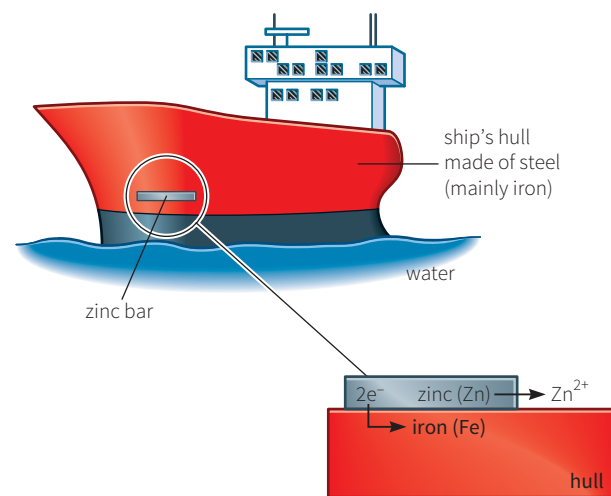

Figure C9.05 Blocks of zinc (or magnesium) are used for the sacrificial protection of the hulls of ships.
- **Sacrificial protection:** This is a method of rust prevention in which blocks of a reactive metal are attached to the iron surface. Zinc or magnesium blocks are attached to oil rigs and to the hulls of ships (Figure C9.05). These metals are more reactive than iron and will be corroded in preference to it. Underground gas and water pipes are connected by wire to blocks of magnesium to obtain the same protection. In all cases, an electrochemical cell is set up. The metal blocks lose electrons in preference to the iron and so prevent the iron forming iron(III) oxide.